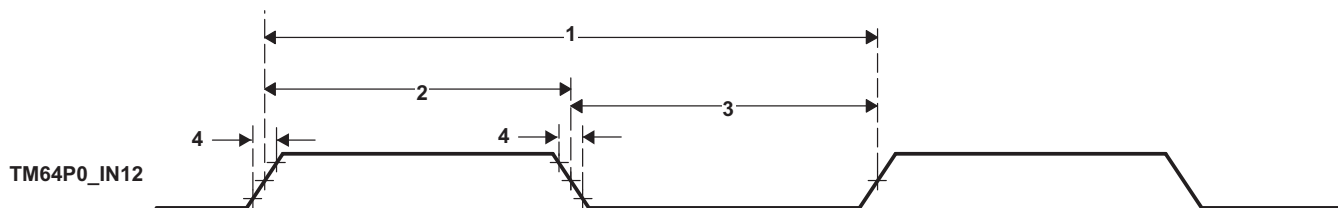

Figure 6-42. Timer Timing
Table 6-77. Timing Requirements for Timer Input(1) (2) (see Figure 6-42)